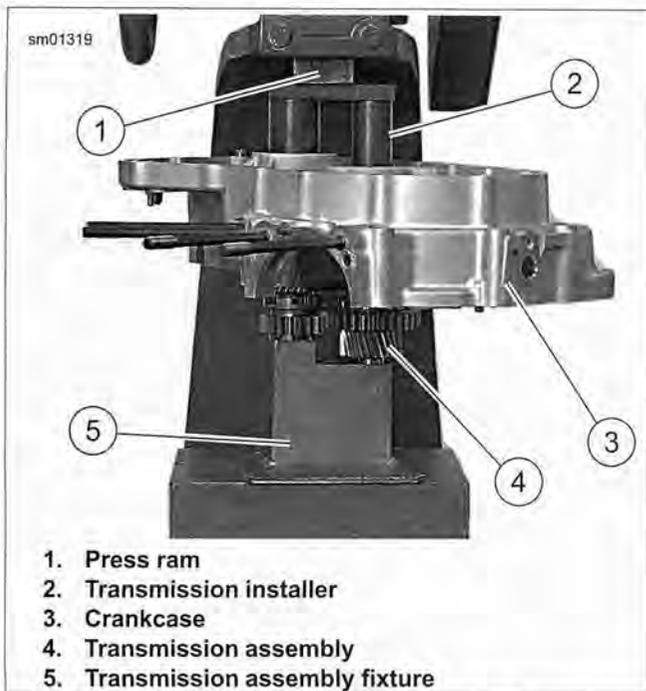

Figure 5-91. Pressing Transmission into Left Crankcase
5. See Figure 5-91. Install left crankcase (3) over transmission assembly (4).
6. Place TRANSMISSION INSTALLER (2) over mainshaft and countershaft bearings in crankcase.
7. Position crankcase and transmission assemblies on press so that transmission installer is under press ram (1).